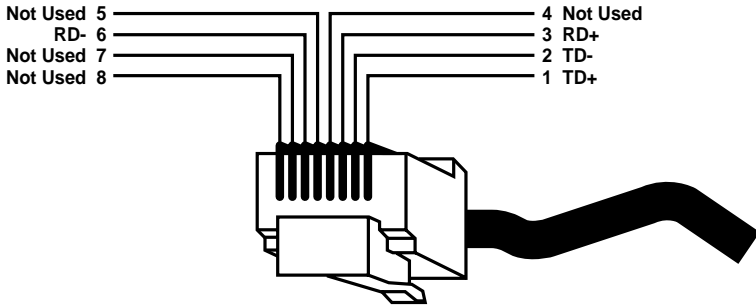

Figure 3-31. RJ-45 Connector Pin Assignments.
4. When a network path consists of five fiberoptic cable segments, each segment should not exceed 1640 feet (500 meters). With four fiber optic cable segments, the maximum allowable length per segment is 3,280 feet (1,000 m) (**Figure 3-31**).